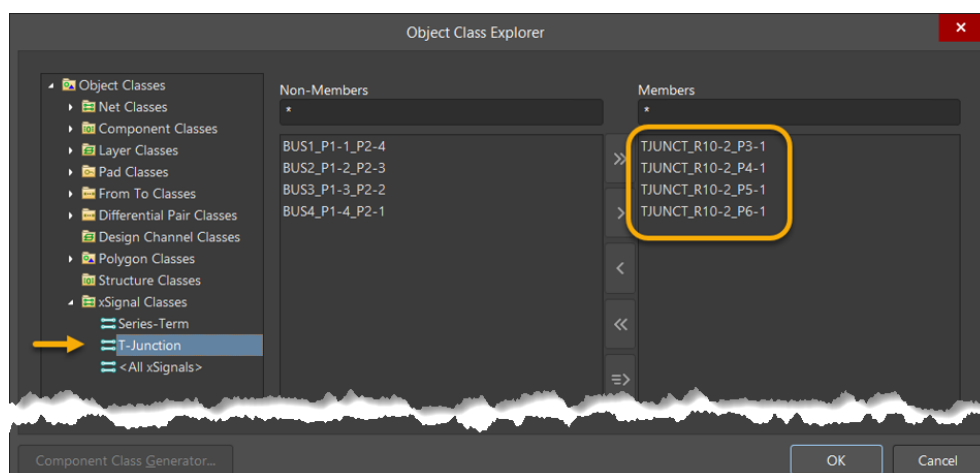

Figure 23. New xSignal class for the T-Junction net
56. You can explore the xSignals classes by going to the **Design** menu and selecting **Classes**. Use Figure 23 as a reference.